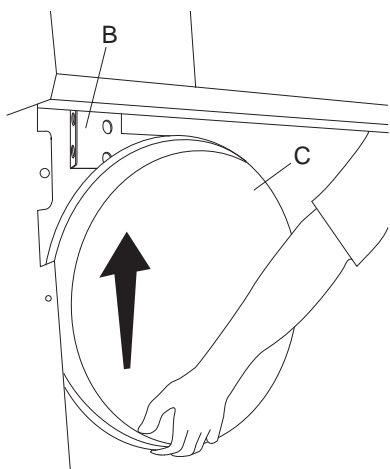

Fig. 25b
8.5.3 Lift the expansion vessel (C) and the bracket (B) so as to remove them (see fig. 25b).